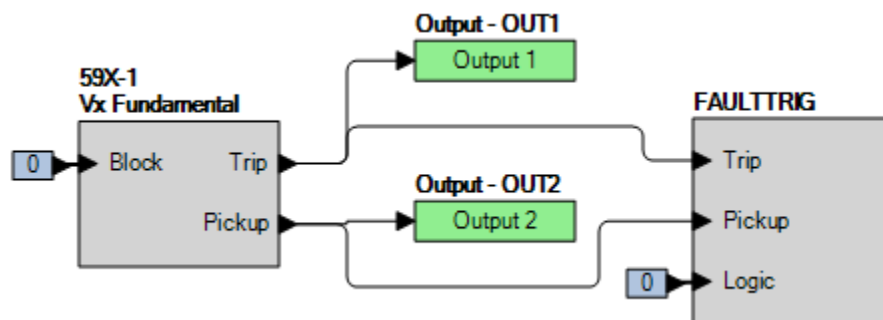

Figure 60-4. BESTlogicPlus Settings (Vx Fundamental Mode)
- Step 2: Use BESTCOMS*Plus* to configure the BESTlogic*Plus* programmable logic shown in Figure 60-4.
- Step 4: Prepare to monitor the 59X-1 function operation. Operation can be verified by monitoring OUT2 (see Figure 60-4).